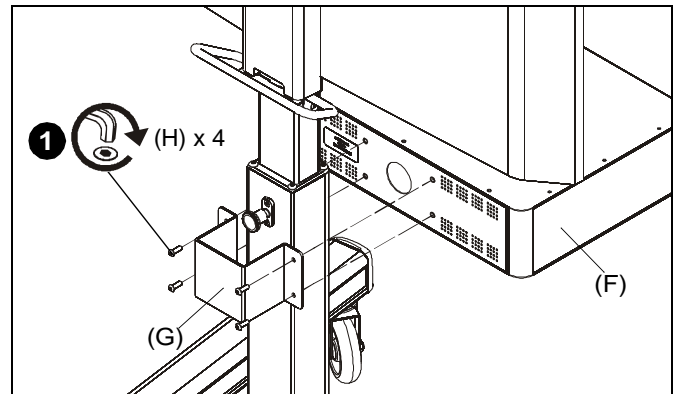

Figure 11
- Use four 1/4-20 x 3/4" button head cap screws (H) to secure pole attachment plate (G) to storage shelf (F). (See Figure 11)